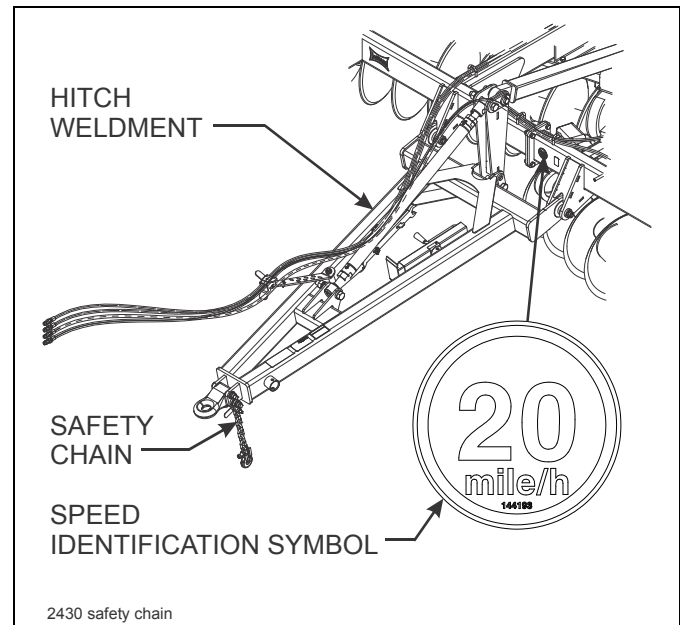

Figure 4-11: Depth Stop Adjustment (Manual)
1. Adjust the depth stop by turning the handle in (clockwise) to increase operating depth (**See Figure 4-11.**) Turn the handle out (counter-clockwise) to decrease operating depth.